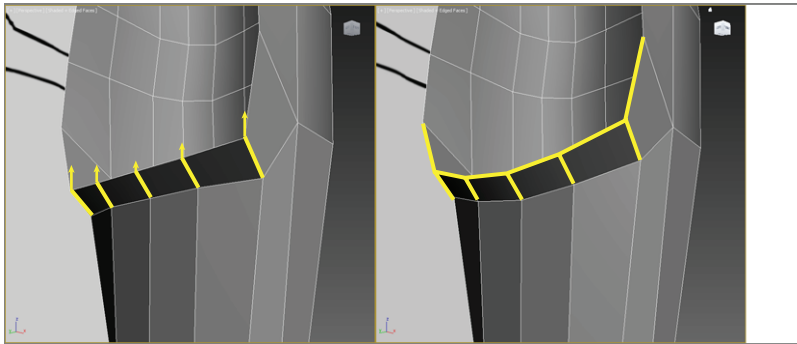

FIGURE 7.31 Select the edges in the groin area (left) and move them up to round them (right).
5. In Edge mode, select and move the segments up (left) to round out the groin section (right), as shown in Figure 7.31.